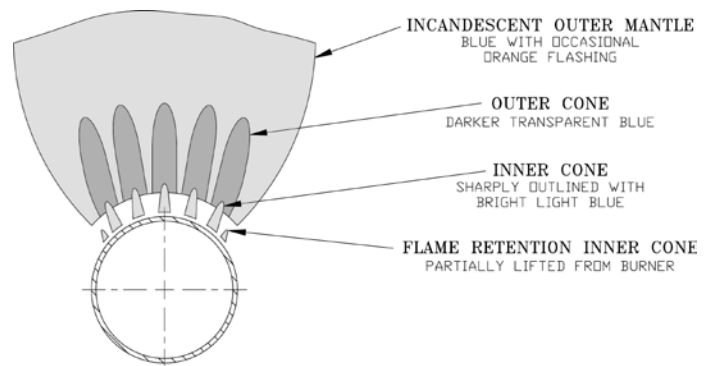

Figure 17: 40mm Main Burner Flame
- D. Check Main Burner Flame.** See Figure 17 or 18. Flame should have a clearly defined inner cone with no yellow tipping. Orange-yellow streaks caused by dust should not be confused with true yellow tipping.